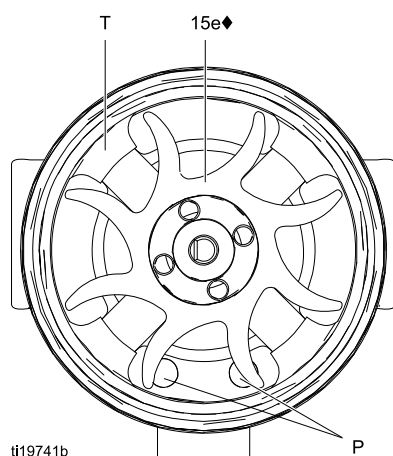
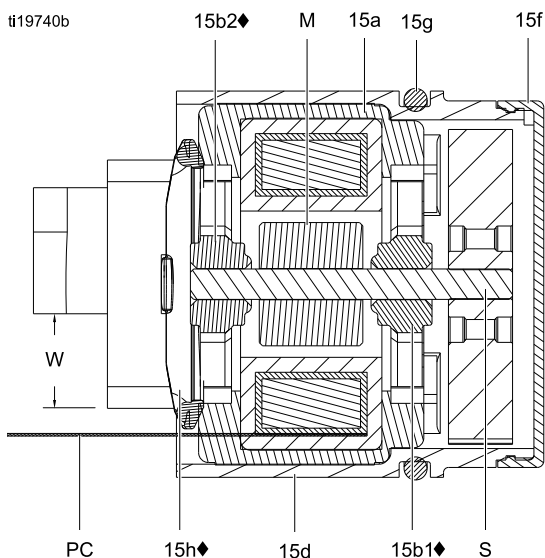

Figure 2 Fan Orientation
Figure 3 Alternator Cross-Section
9. Hold the coil assembly (15a) on a workbench with the fan end facing up. Using a wide blade screwdriver, pry the fan (15e) off the shaft (S).
12. Install the new bottom bearing (15b1♦) on the long end of the shaft (S). The flatter side of the bearing must face away from the magnet (M). Install in the coil (15a) so the bearing blades are flush with the surface of the coil.
14. Hold the coil assembly (15a) on a workbench with the fan end facing up. Press the fan (15e♦) onto the long end of the shaft (S). The fan blades must be oriented as shown in Fig. 2.
15. Carefully press the coil assembly (15a) into the front of the housing (15d♦). The 3-wire connector (PC) must be positioned below the wider notch (W) of the housing tabs, as shown in Fig. 3. Be sure the coil alignment pins (P) are positioned as shown in Fig. 2.
16. Rotate the fan (15e) so its blades clear the four bearing tabs (T) at the back of the housing. Ensure that the blades of the bottom bearing (15b1♦) align with the tabs.